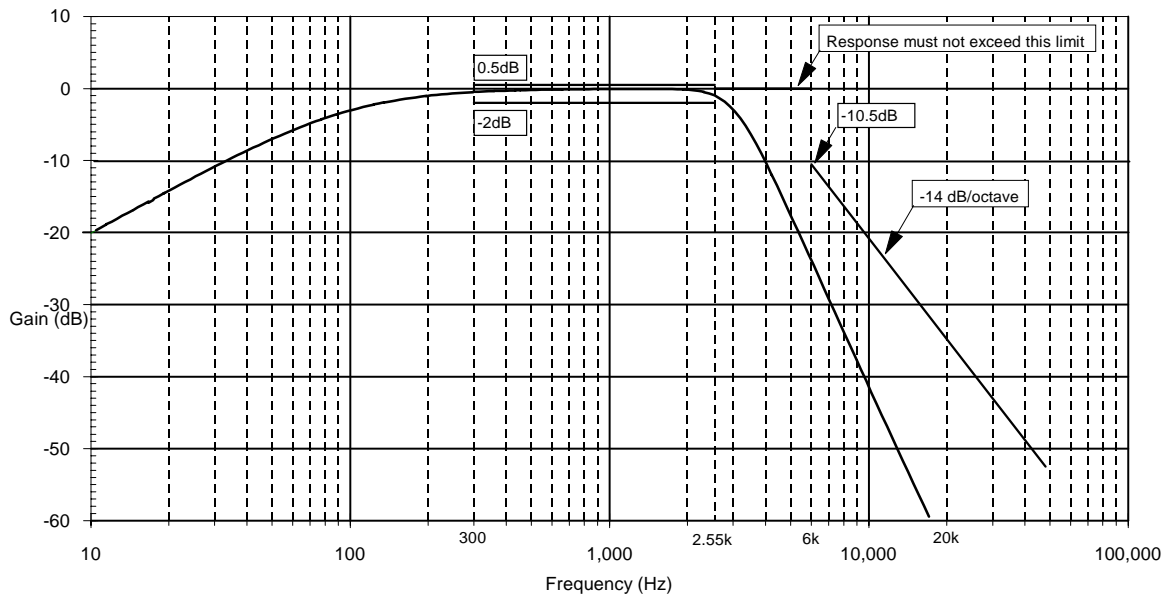
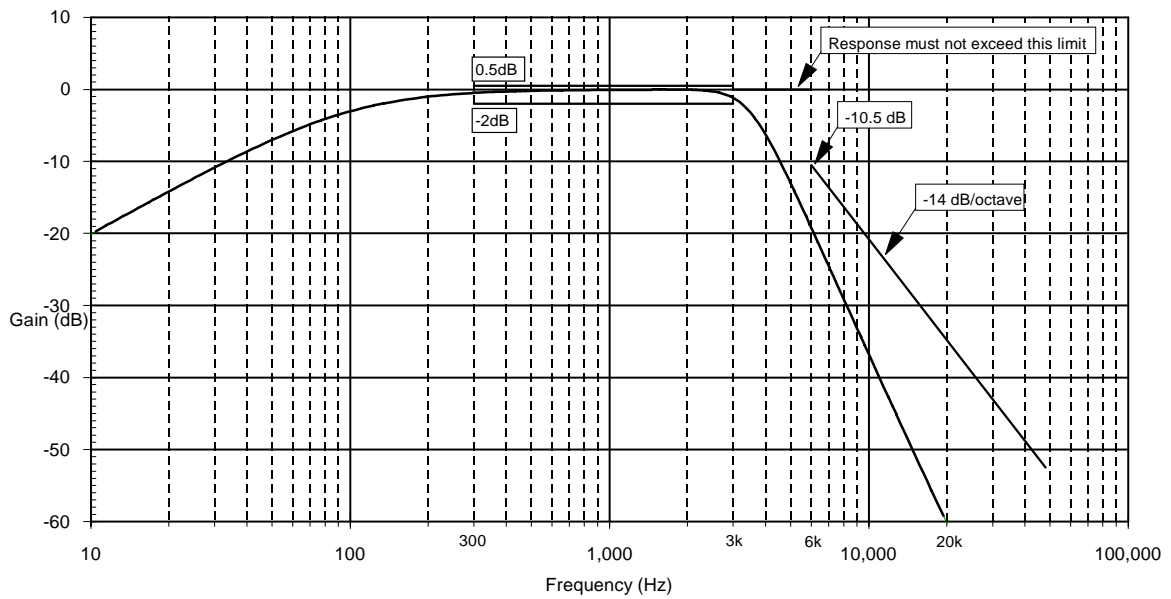

Figure 12: Overall Audio Frequency Response for 12.5kHz Channel Separation
Figure 13: Overall Audio Frequency Response for 20kHz/25kHz Channel Separation
- Between MIC or AMP1 inputs to Modulator and Audio outputs, see Figure 12 and Figure 13.